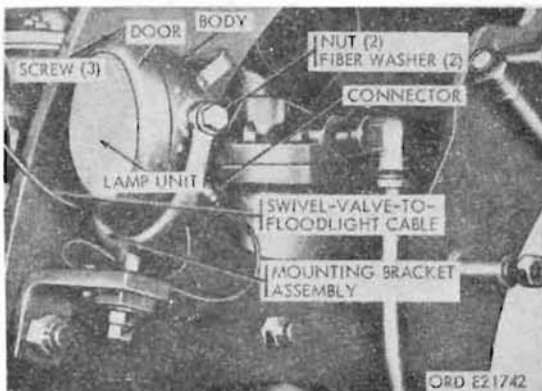
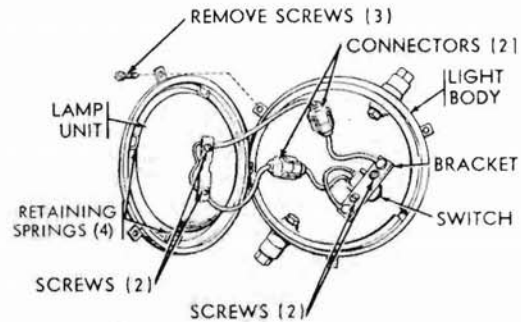

Figure 307. Crane floodlight - installed
Figure 308. Crane floodlight - disassembled showing lamp and toggle switch
- (1) Removal. Loosen three screws holding door on floodlight body and separate door and lamp unit from body. Pull door and lamp unit out from body until rear of lamp unit is accessible. Loosen two screws holding cables to lamp unit contact terminals, and remove lamp unit and door from floodlight body (figs. 307 and 308).
b. Floodlight Toggle Switch (Fig. 308).
- (1) **Removal.** Remove floodlight lamp unit (a(1) above). Separate cable female and male connector shells at light switch. Remove two screws holding switch contact bracket on body, and remove bracket and switch.
- (2) **Installation.** Install floodlight switch in position under floodlight switch housing and position switch contact bracket over switch. Secure bracket and switch to floodlight body with two roundhead screws. Connect cable connector shells at switch. Install lamp unit (a(2) above).
c. Floodlight (Fig. 307).
- (1) **Removal.** Disconnect cables (fig. 307) at floodlight. Remove two nuts and fiber washers holding light in floodlight mounting bracket and remove light.
- (2) **Installation.** Install light on mounting bracket with two fiber washers and nuts. Tighten nuts until washer friction prevents light from being turned freely, yet permits turning of floodlight by hand. Connect cables (fig. 307) at light.